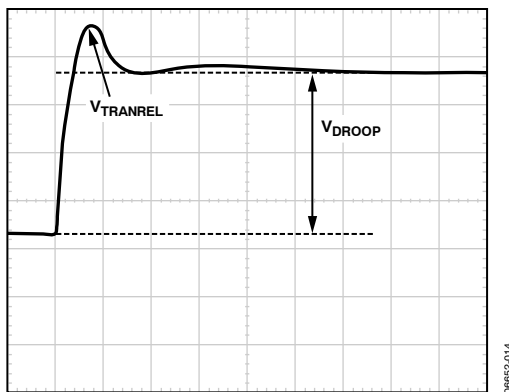

Figure 17. Transient Setting Waveform
- For load release (see Figure 17), if $V_{TRANREL}$ is larger than the allowed overshoot, there is not enough output capacitance. Either increase the capacitance directly or decrease the inductor values. If the inductors are changed, however, it will be necessary to redesign the circuit using the information from the spreadsheet and to repeat all tuning guide procedures.